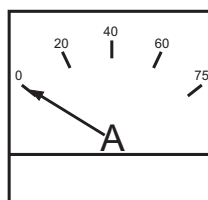

Figure 28. Ammeter (No Load)
12. The ammeter (Figure 28) will indicate zero amps with no load applied. When a load is applied, this meter will indicate the amount of current that the load is drawing from the generator's alternator.